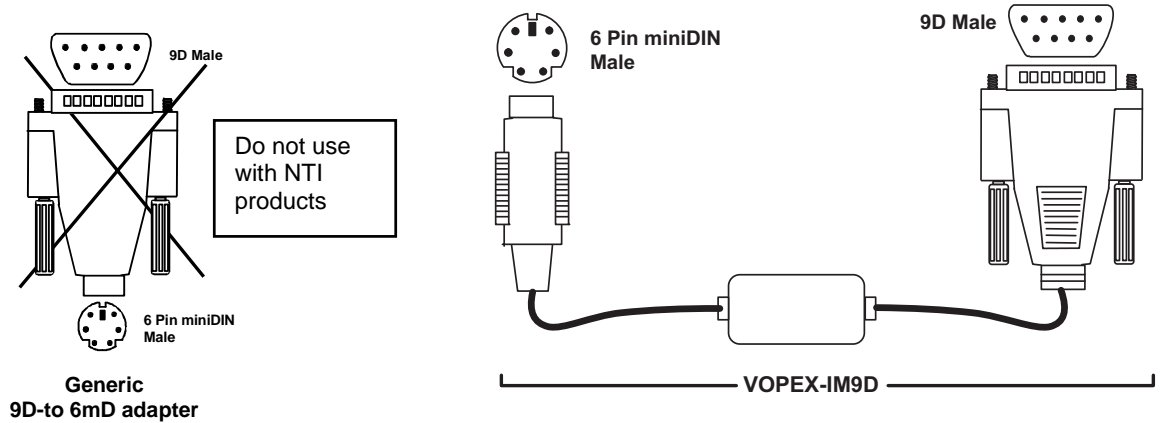

Figure 11- Use a VOPEX-IM9D for CPU with serial mouse port
**WARNING!** If a serial mouse port is being used on a PC to connect a serial host to an NODEMUX, do not use a generic 9D-to-6mD adapter to make connection to the PS/2 cable-- use a VOPEX-IM9D to convert the signal from the serial port to PS/2 (see Fig. 11).